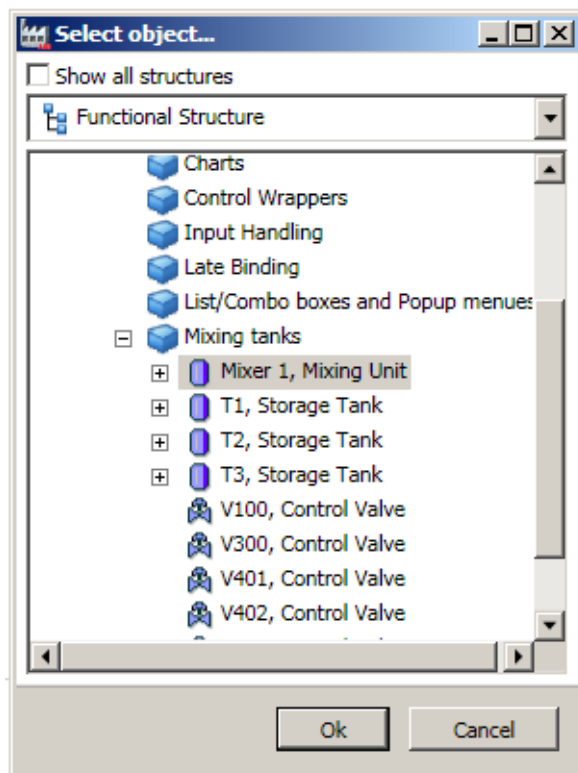

Figure 64. Group Manager - Select Object Dialog
4. In the Select object... dialog (refer to Figure 64), select the required structure from the drop-down list and select the object to which the alarm groups is to be configured and click **Ok**.